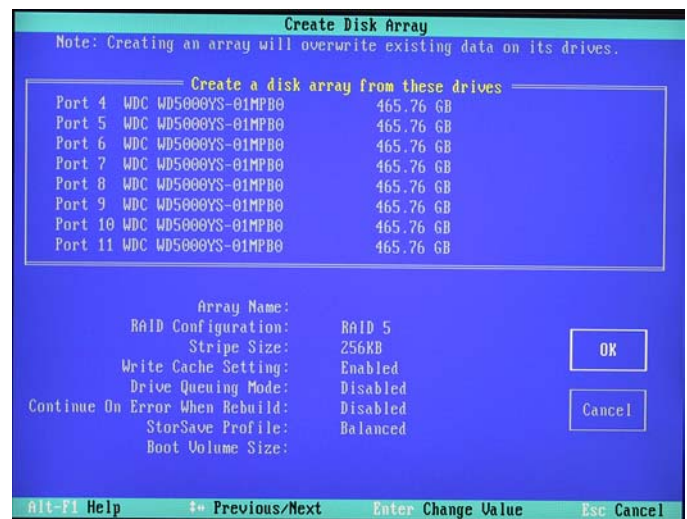

Figure 6-14
- 17) Use the up/down/right/left arrow keys to highlight the **OK** item (Figure 6-14) and then press the <Enter> key to save your changes.